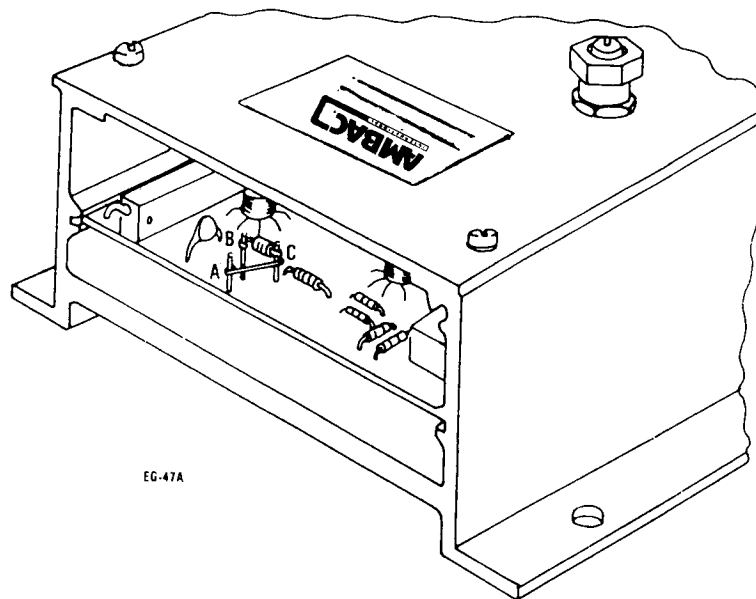

Figure 6. Location of posts "A", "B", and "C"
2. Locate terminals "A", "B" and "C" (Figure 6).